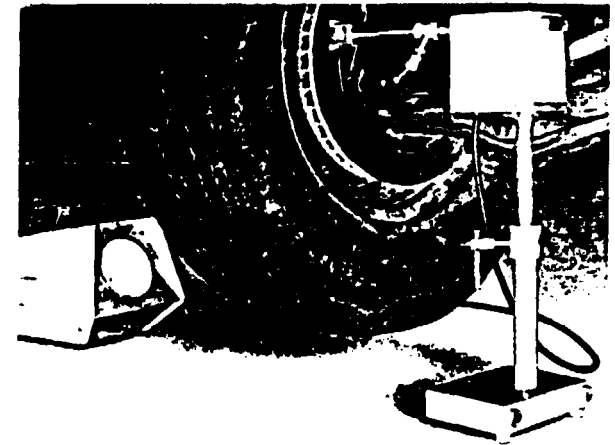
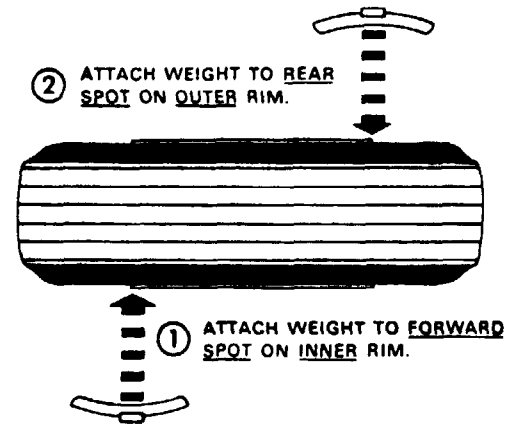

Fig. 13
Fig. 14
- (A) With the steering wheel, turn the wheel to be balanced to its outer limit. Then turn the steering wheel back about 1/4 turn and lock it in position with a steering-wheel holder or with the steering column lock, if the vehicle is so equipped.
- (B) Install the pick-up unit as shown in Fig. 13. Loosen the probe lock screw. Extend the magnet to contact the brake backing-plate cover near the front at a point about level with the wheel center. Tighten the lock screw.
- (A) Spin the wheel to no more than half the speed used to kinetically-balance the wheel. If the meter needle remains in the green area of the scale, there is negligible dynamic unbalance in the wheel.
- (B) If the meter needle goes above the green area of the scale, spin the wheel until the meter reaches a peak. Observe the location of some reference mark, as in kinetic balancing. A kinetic balance weight may be the most obvious reference mark.
- (C) Stop the wheel. Revolve it by hand until the chosen reference mark is in the same position as that observed at the peak reading. Attach a 3-ounce weight to the exact forward spot on the inner rim of the wheel. Attach another 3-ounce weight to the exact rear spot of the outer rim. See Fig. 14.